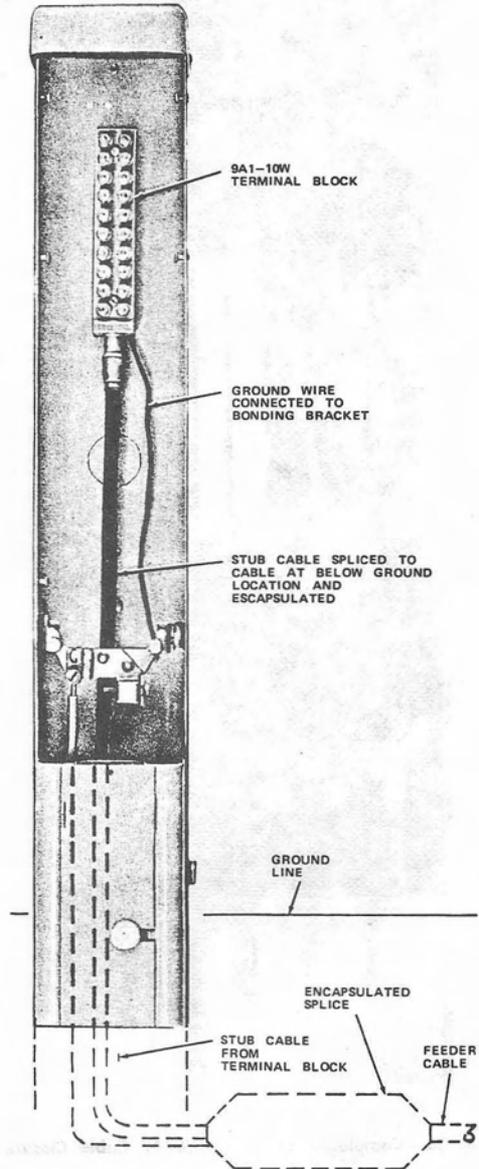

Fig. 26—PC4/48M Cable Closure Equipped With 9A1-10W Terminal Block
6.09 Figure 26 illustrates a PC4/48M cable closure equipped with a 9A1-10W terminal block for buried encapsulated splices.